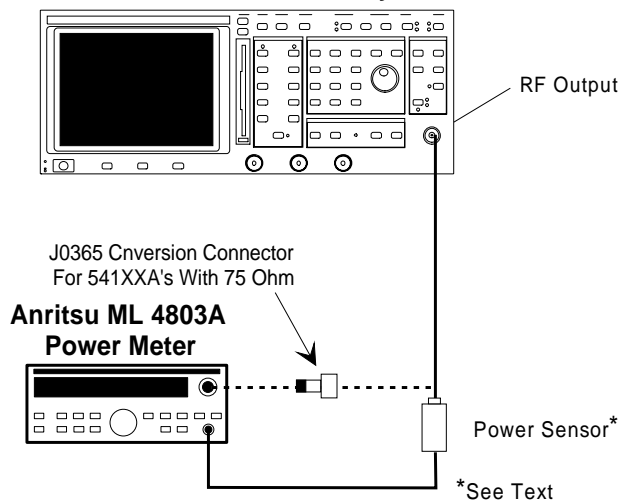

Figure 6-7. Equipment Setup for ALC Pre-Adjustment Procedure
Step 7. Connect the power meter to the 541XXA as shown in Figure 6-7.